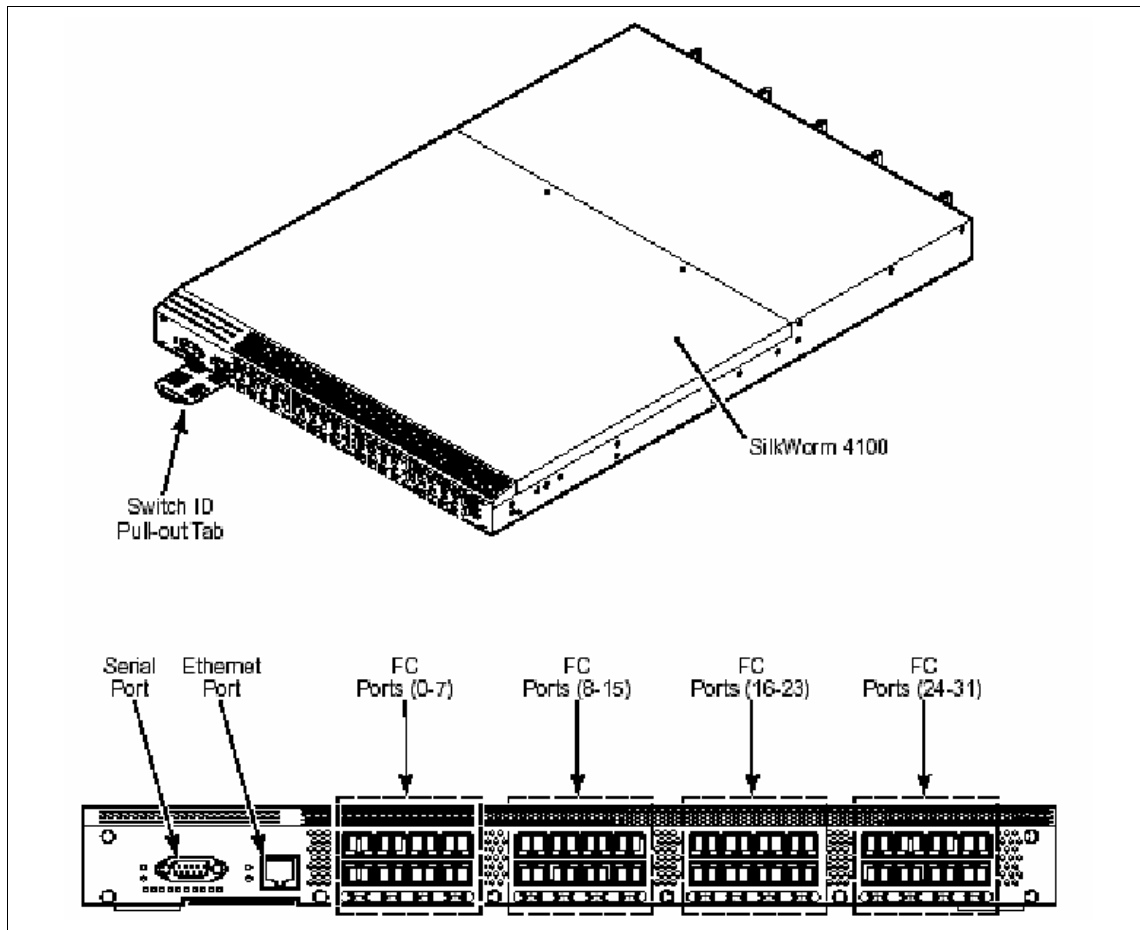

Figure 5-21 IBM TotalStorage SAN32B-2 Switch
In this section, we discuss the configuration of the external switch used in our lab environment. The switch is the IBM TotalStorage SAN32B-2 Switch, shown in Figure 5-21.
3. Record the IP address on the pull out tab (see Figure 5-21 on page 76) provided for this purpose on the port side of the SAN32B-2.